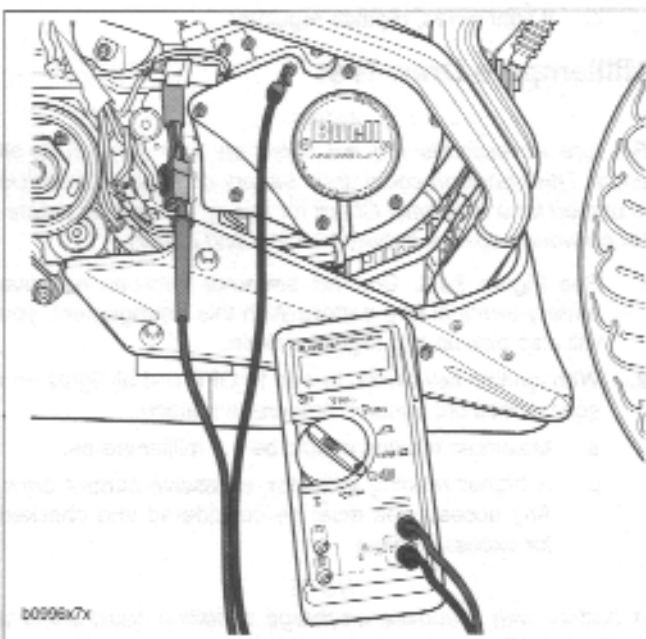

Figure 7-26. Test for Grounded Stator
2. See Figure 7-26. Connect an ohmmeter.